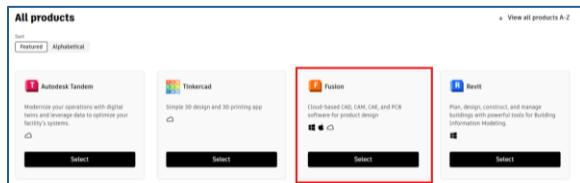

Figure 2: Confirm your eligibility page
- 3- You will be directed to the page as seen in Fig. 2.